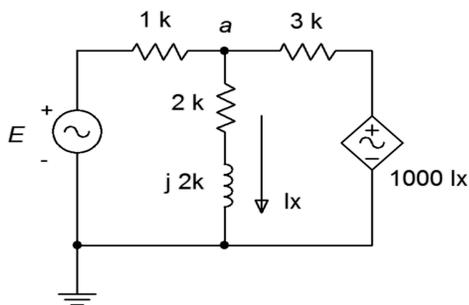

Figure 5.45
80. Determine  $v_{ab}$  in the circuit of Figure 5.45.  $E = 10\angle 0^\circ$